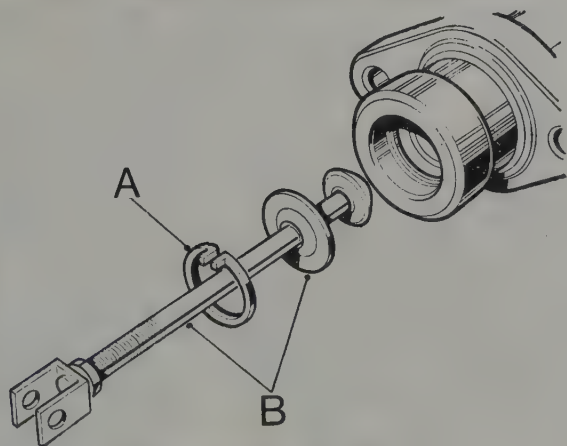

Fig. 5.3. Dismantling master cylinder
- 2 See Fig. 5.3 and remove the circlip at "A" when the pushrod and retaining washer can be withdrawn from the cylinder.